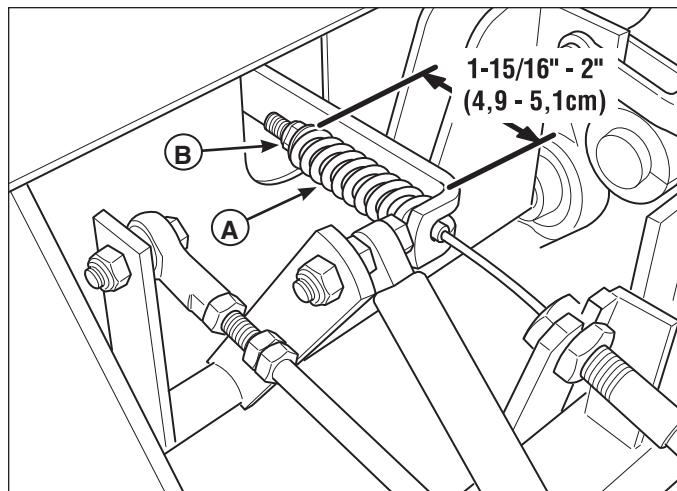

Figure 38. Parking Brake Adjustment
3. Locate the brake spring (A, Figure 38).
5. If the spring is not within this range, release the parking brake and turn the adjustment nut (B) to compress or release the spring.